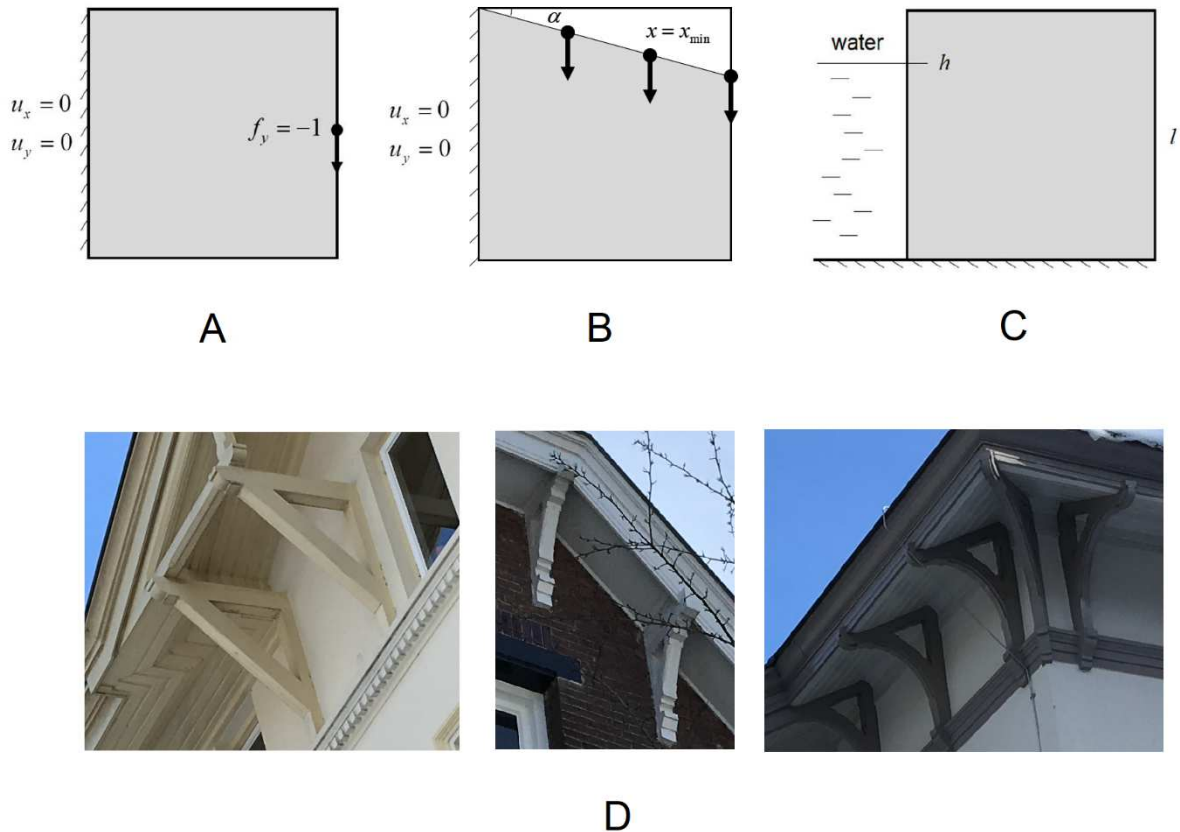

Fig. 1 (A) Problem 1, (B) Problem 2, (C) Problem 3, (D) Examples of designs of roof supports used in architecture of houses.
Change the loads and boundary conditions in order to solve the problem depicted on Fig. 1 (A).
3. **(4 points)** Using previously designed tools, try to design an optimal roof support (see the problem description on Fig. 1(B) and sample designs on Fig. 1(D)). The elements above the roof level are of zero density and do not participate in the optimization process (see [1] for the details on how to implement such a constraint in the code). For the remaining elements, use volume fraction  $f$  of 0.5 as an optimization
constraint. We assume the load from the roof is distributed evenly among  $N$  equispaced support points (On the Fig 1(B)  $N=3$ ). Try to perform the optimization for few values of  $N$ , including  $N = 1$  (tip-loaded beam) and  $N$  is equal to number of elements along  $x$  (uniformly distributed load). Try to perform the topology design procedure for the roof inclination angles  $\alpha = 15^\circ$  and  $\alpha = 30^\circ$ .
4. **(2 points)** Try to design a dam (Fig. 1(C)), given that the density of the material of a dam is negligible compared to density of the water. Compute solutions for few different water levels.